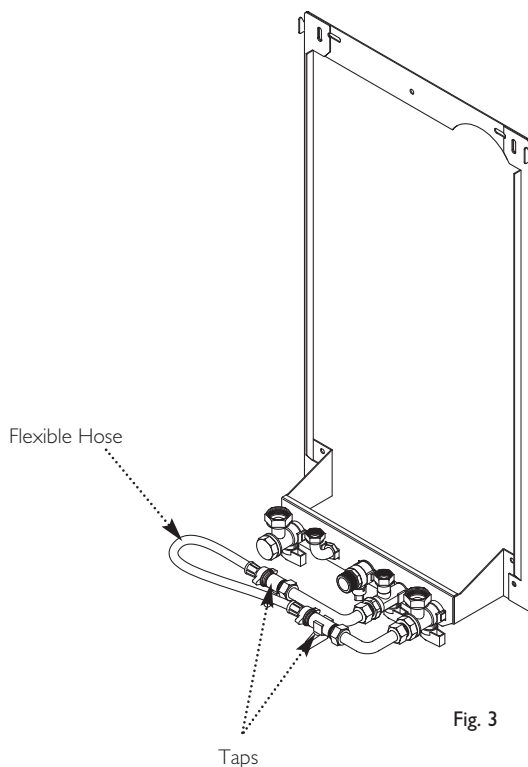

Fig. 3
3. A filling device (the filling loop) will be fitted on the system. This will be on the boiler itself (Fig. 3), or on pipework near to the boiler.